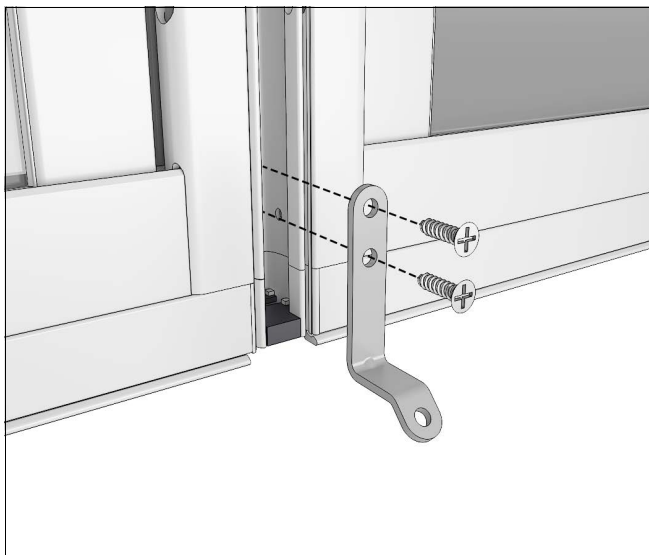

Figure 4 Mullioned units with 1/2" Space Mull
4. For 1/2" Space Mullioned Assemblies: Place a mull bracket at the sill end of the aluminum mull tie as shown in Figure 4 and attach with #7 x 5/8" flat head screws.